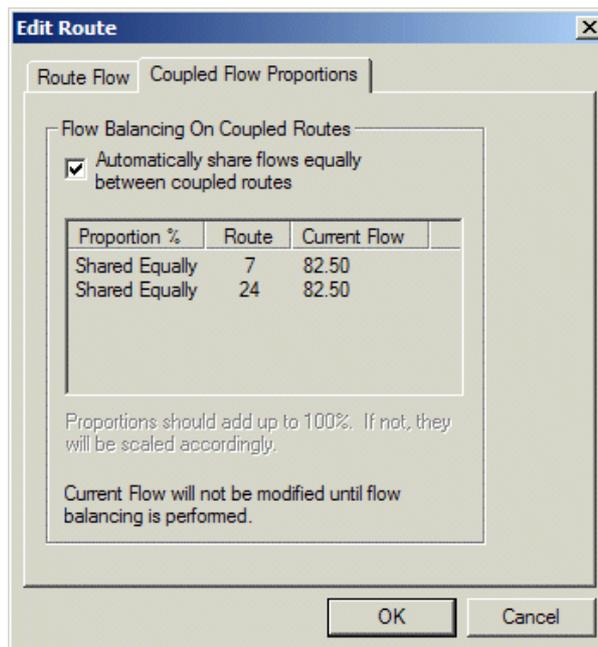

Figure 4.20 : Coupled Route Flow Proportions Dialog
- Open the 'Edit Route' dialog box from the Route List for Route 7 and select the 'Coupled Flow Proportions' tab as shown in Figure 4.20.